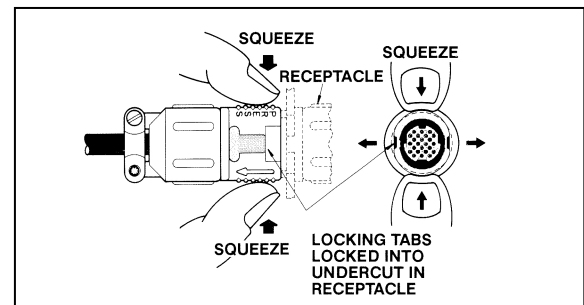

FIGURE 2. PROBE CABLE CONNECTOR REMOVAL
6. As shown in Figure 2, remove the left-most cable connector. To disengage the locking tab, squeeze the connector shell top and bottom, and gently pull cable plug from transmitter.